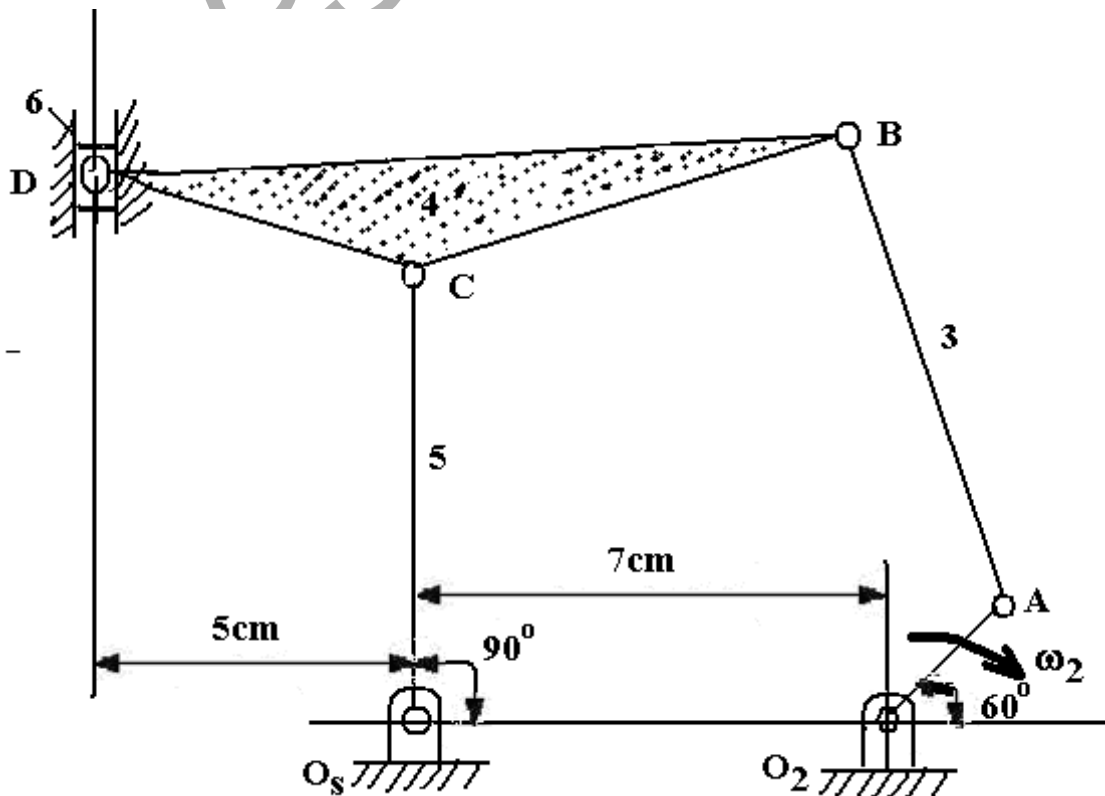

Figure 1
- A Watt 'walking - beam' mechanism is shown in Figure 1. Determine the velocity and acceleration of the slider if the crank O_2A rotates with a speed of 1 cycle/sec in a clockwise direction. Given $O_2A = 2\text{cm}$, $AB = 8.5\text{ cm}$, $BC=7.5\text{ cm}$, $CD=5.25\text{ cm}$, and $O_5C = 7\text{ cm}$. [16]